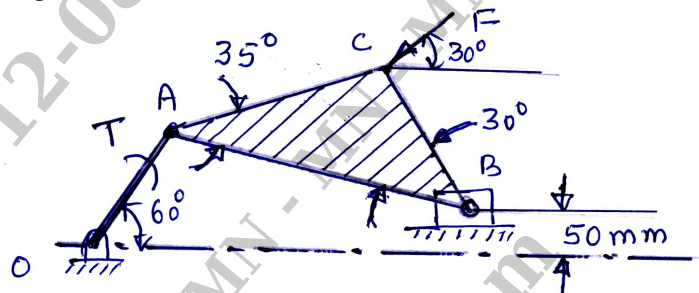

Fig.Q1(b)
- For the mechanism shown in Fig.Q1(b), find the required input torque for the static equilibrium. The length $OA = 250\text{mm}$, $AB = 650\text{mm}$, $F = 500\text{N}$.